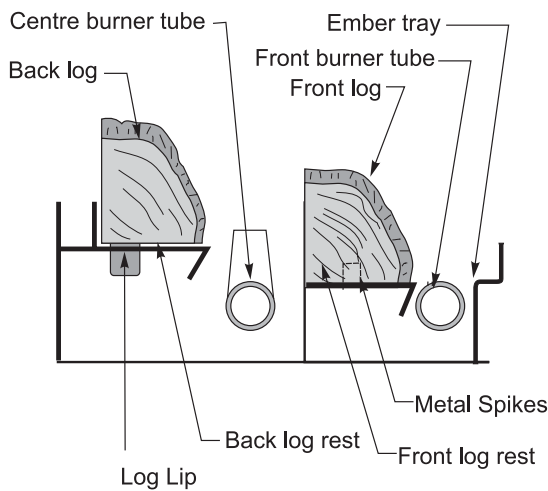

Figure 10a. Positioning for the front and back logs.
2. Place the Back log onto the back log rest as shown below in figure 10a. The log has lip on the bottom which fits into the slot on the log rest.
3. Place the Front log onto the front log rest as shown in figure 10a. Center the log from side to side, and push it against the back of the log rest. Carefully push the log onto the metal spikes on the log rest.